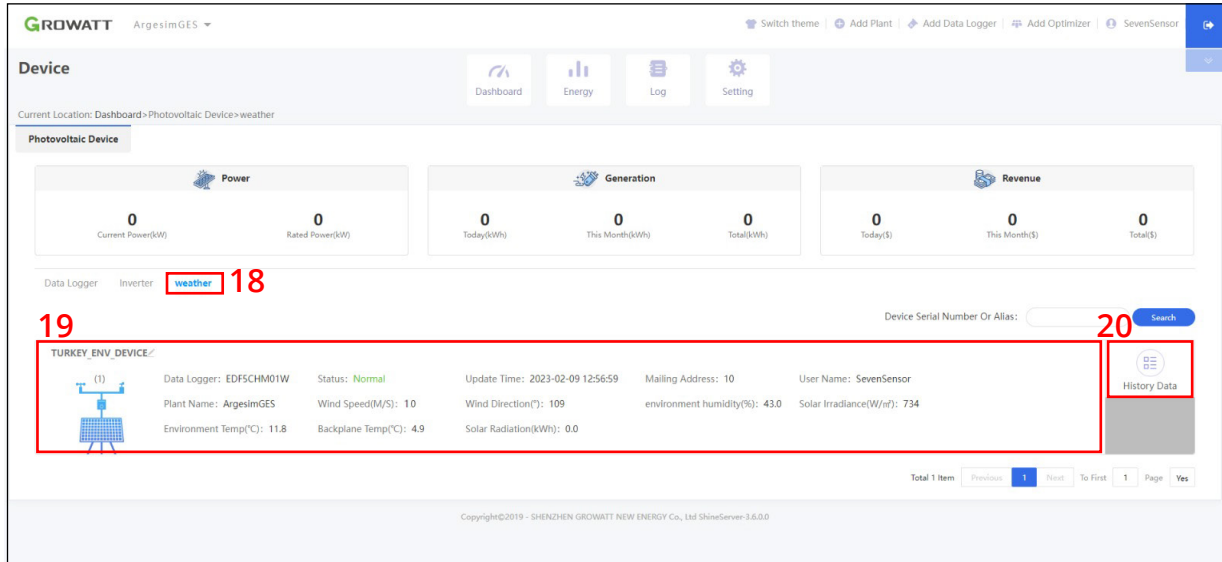
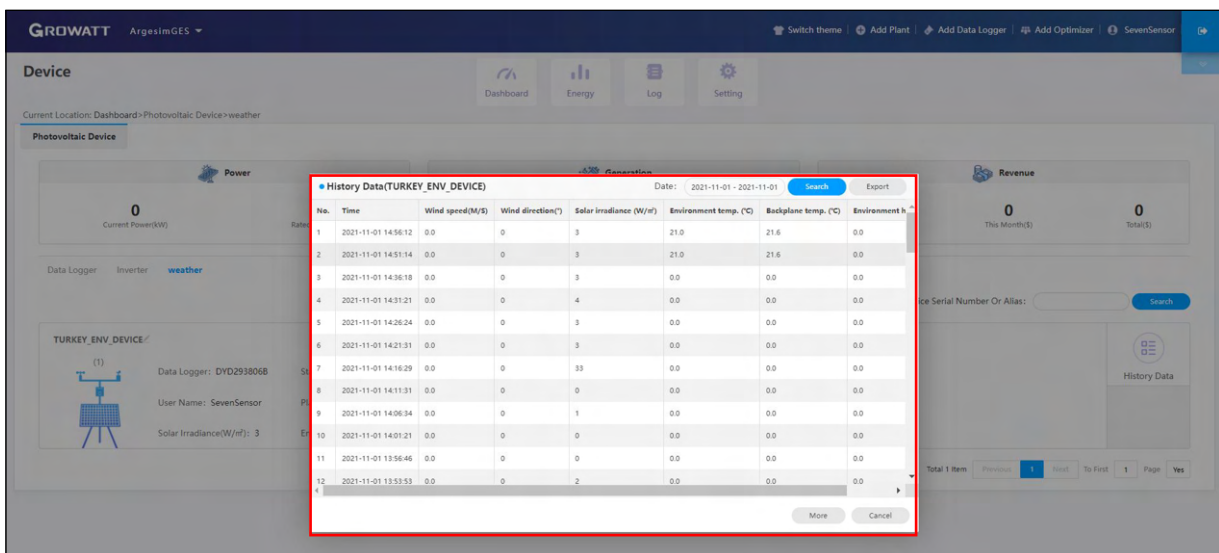

Figure 11: Added Weather Station
Figure 12: Weather Station History Data
Step 18 and 19 : In "**Weather**" menu all meteorological data will appear as shown in Figure 11.
Step 20 : Click on "**History Data**" to view the history of meteorological data as shown in Figure 11. You can watch the old data of sensors as shown in Figure 12.